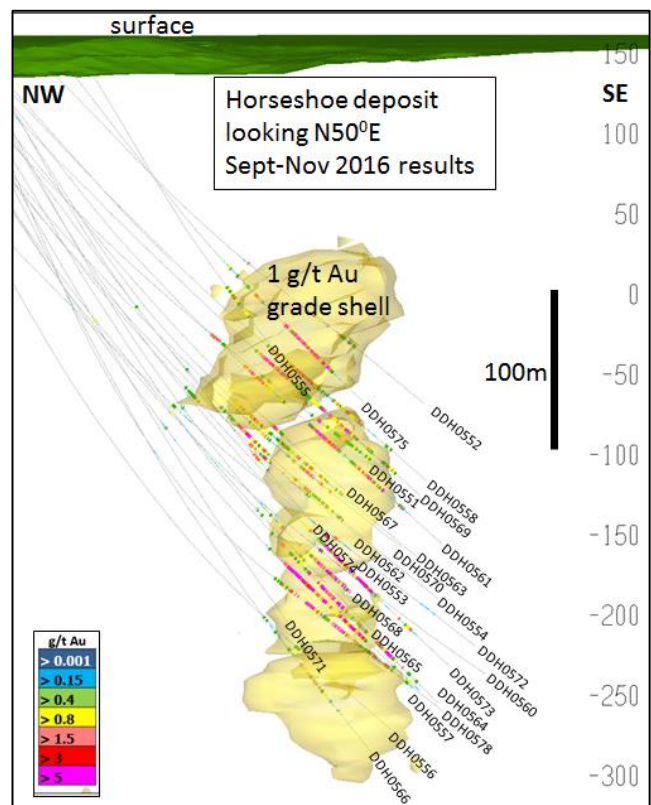

Figure 4: Horseshoe Section with recent drill holes
- The recent Haile Horseshoe drilling is displayed in long section in Fig 4 herein with maps and comprehensive drill tables including results available at <http://www.oceanagold.com/investors-and-media/filings> accessed.